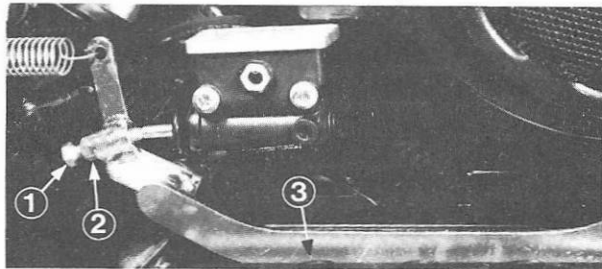

Fig. 43 ① Adjuster Screw ③ Brake Pedal
2. Loosen the locking nut on the adjuster screw (Figure 43).